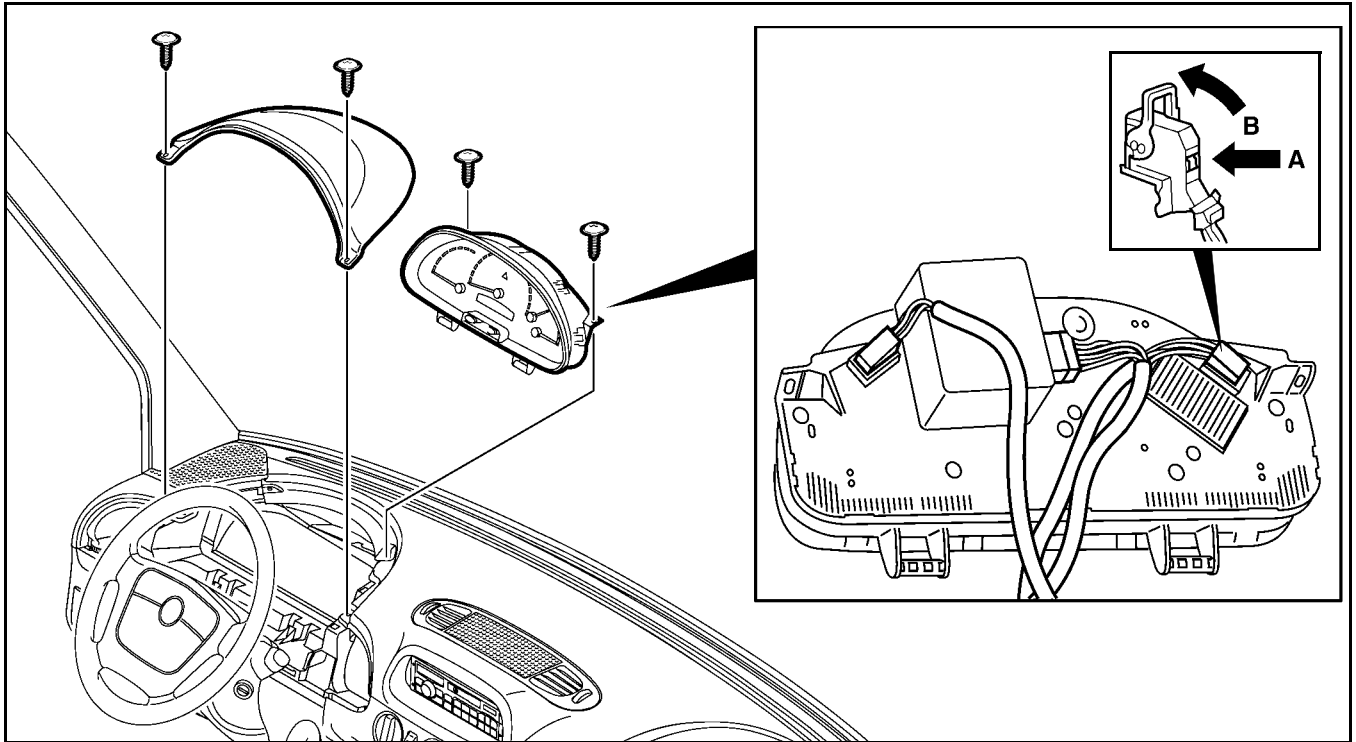

Figure 11 Instrument Cluster Removal
11. Remove the cluster top cover and instrument cluster screws (Figure 11). Release the SKREEM module from the back of the instrument cluster. Depress the release (Arrow A) and lift the lever arm (Arrow B) to disconnect both harness connectors. Lift the instrument cluster upward to disengage the pivot loops from the pivot hooks on the instrument panel. Remove the instrument cluster from the instrument panel.